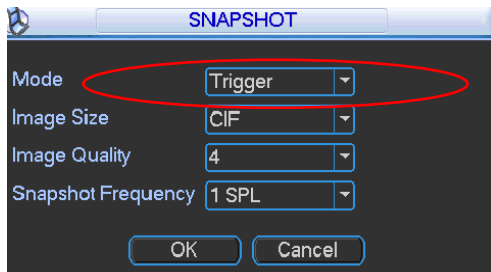

Figure 4-45
- In Encode interface, click snapshot button to input snapshot mode, size, quality and frequency. See Figure 4-45.